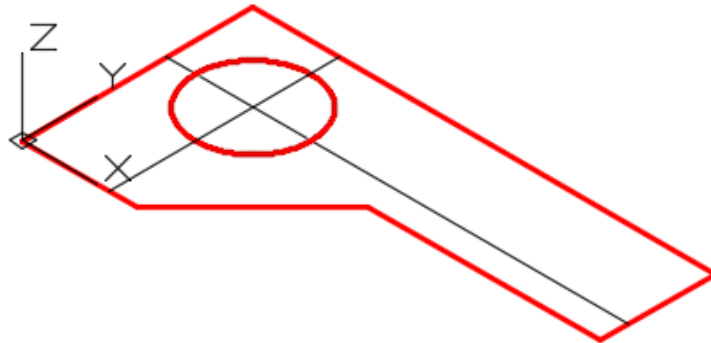

Figure Step 7
Step 7 Use the CIRCLE command to draw a 2 diameter circle with its center located at the intersection of the two construction lines. (Figure Step 7)